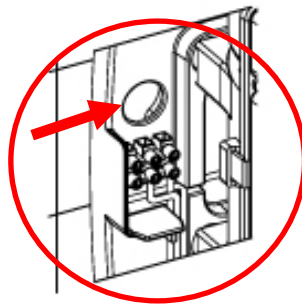

Figure 5.
- Pass the electrical cables from the power grid through the hole with the 22 mm (0,87") diameter which is situated above the device's terminal strip (Figure 5).